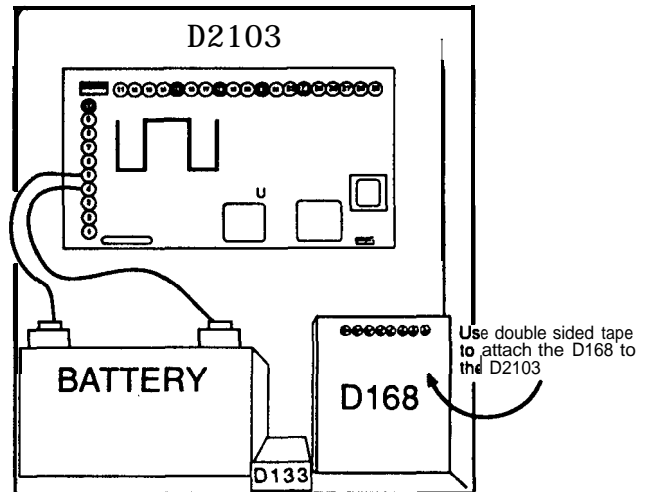

Figure 1
2. Use the attached tape to mount the non-component side of the D168 to the D2103 enclosure, as shown in Figure 1.